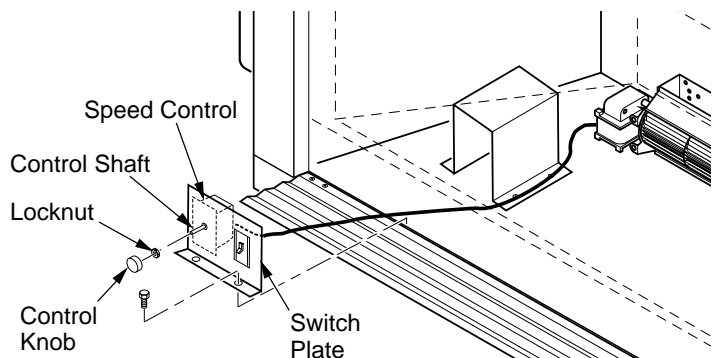

Figure 25 - Attaching Speed Control to Firebox
7. Place speed control against the back of this plate and push the plastic control shaft through opening (see Figure 25).
8. While supporting speed control, secure control shaft with lock nut by pushing and turning lock nut with pliers clockwise until tight against the plate. Place control knob (provided) onto shaft (see Figure 25).